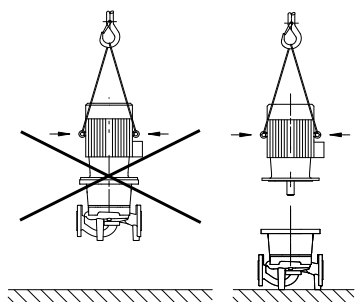

Fig. 16: Attaching the motor
- The transport eyes on the motor are only for transporting the motor, and are not approved for transporting the complete pump (Fig. 16).